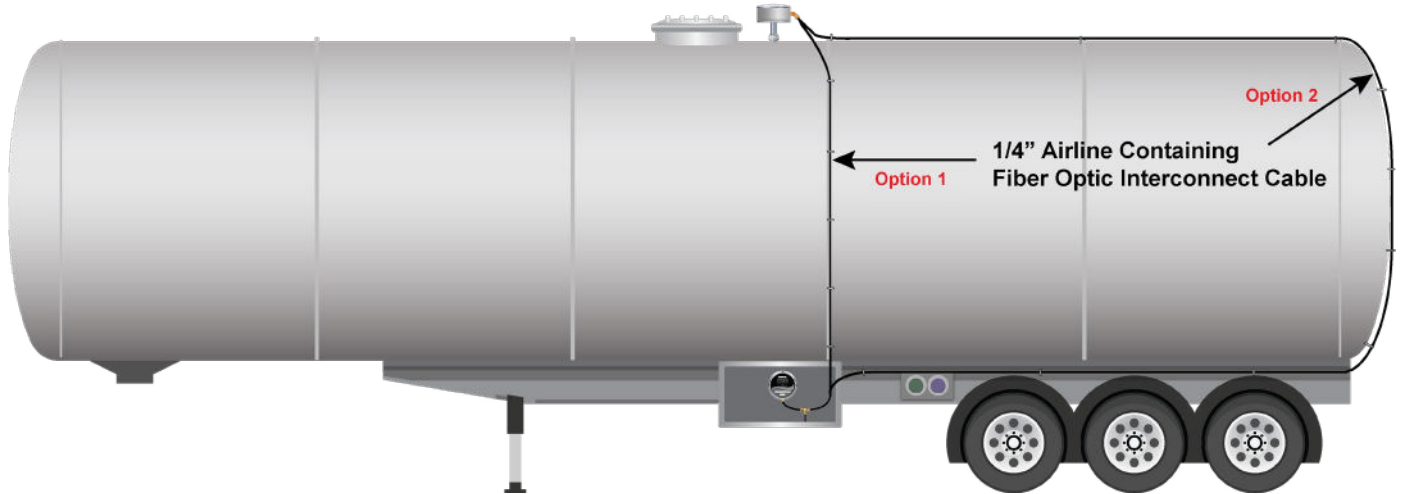

Figure 3.4.5a Airline Routed from Sender Bar to Gauge
1. Route the 1/4" airline from the sender bar head to the display. Avoid bends tighter than 90° and do not kink. (See Figure 3.4.5a) Airline can be routed either to the side of the tank to the display (Option 1), or to the back of the tank, down and then to the display (Option 2).